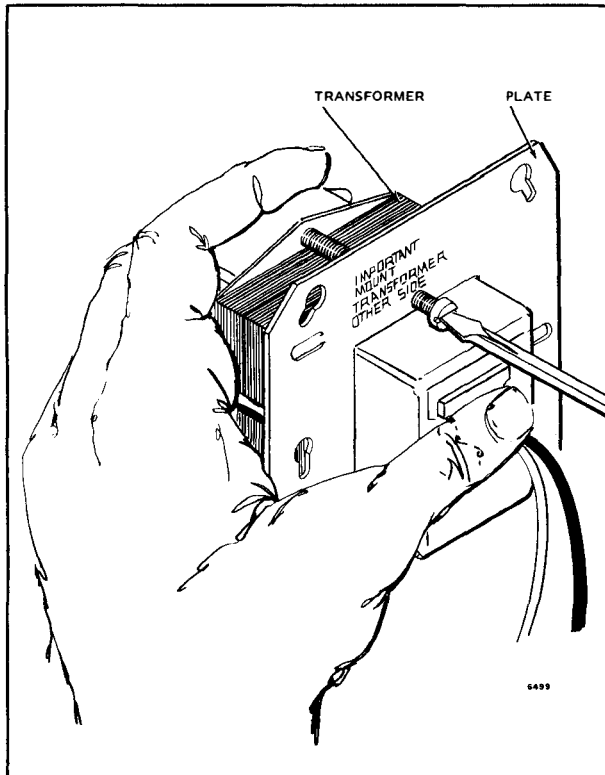

FIG. 21—SECURE PLATE TO TRANSFORMER WITH MOUNTING SCREW.
5. Insert mounting screw through holes as illustrated in Fig. 21. Secure plate to transformer. Do not over-tighten screw.